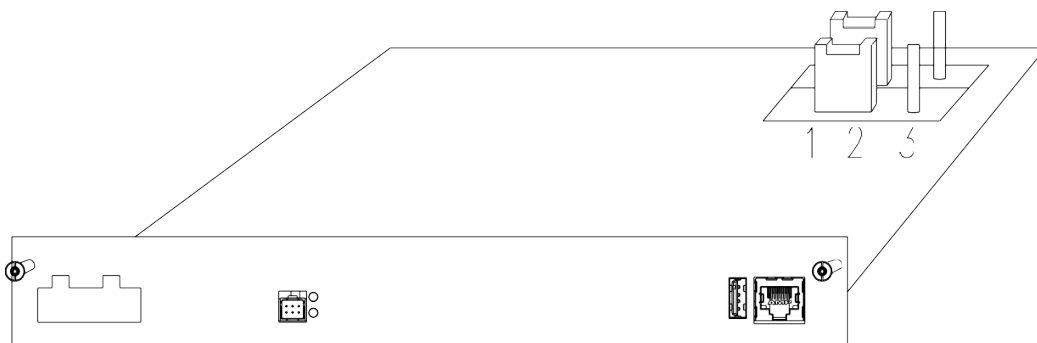

Figure 5.28 Resistance Setting Diagram
- Dispenser E requires the jumper to be placed on pins 1 and 2. As shown in Figure 5.28: